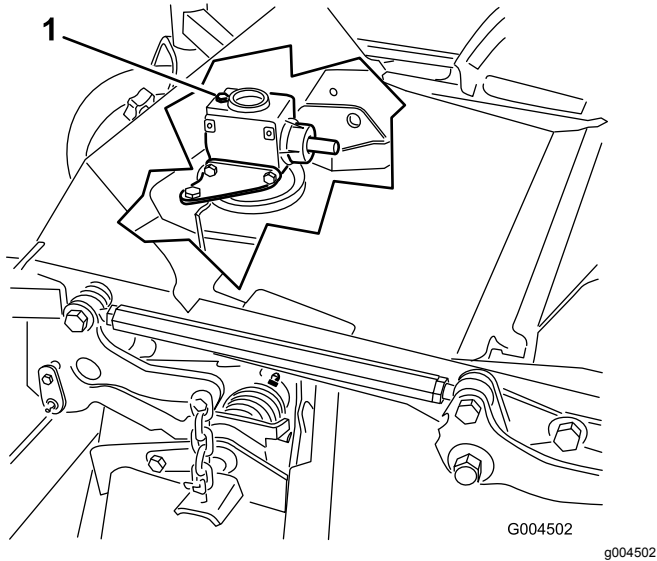

Figure 63
6. Remove the dipstick/fill plug from the top of the gearbox (Figure 63) and make sure that the lubricant is between the marks on the dipstick.
6. Remove the dipstick/fill plug from the top of the gearbox (Figure 63).